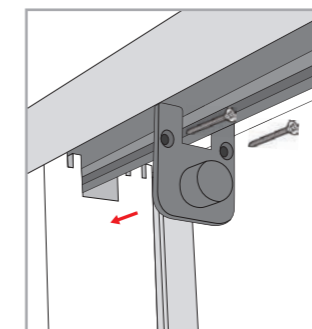

Figure 21: Top rail stop plate.
**Step 7** - Line up the rear side stop plate (top) and screw the plate in place as shown in Figure 21.